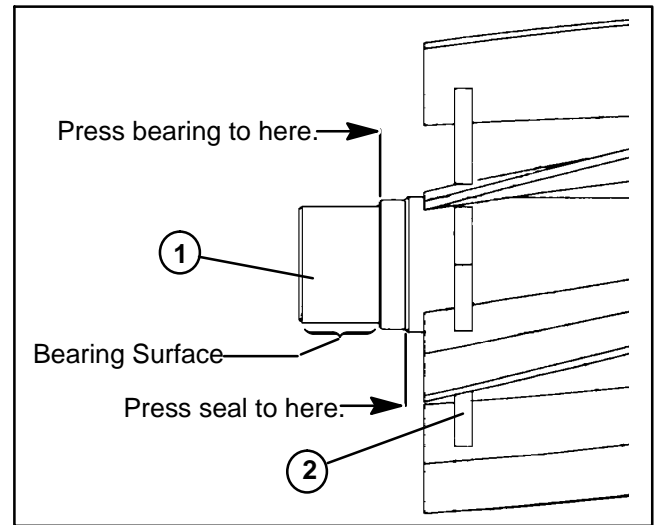

Figure 60
**Note:** If bearings (12) were removed, grease seals (13) should be replaced. Both bearings should be replaced as a set.
1. If bearings (12) and grease seals (13) were removed from the reel shaft (1), install seals and bearings to the shaft as follows:
- B. Clean bearing surfaces of reel shaft. Apply anti-seize lubricant to both bearing surfaces (Fig. 60).
**IMPORTANT: Pressing the seal too far onto the reel shaft will cause the seal to spread, and not allow it to be tight on the shaft (Fig. 60).**
- C. With the lip side of the seal facing the reel spider, press seal onto each end of the reel shaft (Fig. 60).
- D. Press bearing onto each end of the reel shaft (Fig. 60).
**IMPORTANT: Do not install the flat wire spring (11) into the right bearing housing. Damage to the spring may result as well as increased noise and poor quality of cut.**
2. Install right bearing housing (10) as follows:
- A. Insert bearing housing (10) into the right sideplate of the frame so that the grease fitting (9) is facing up.
- B. Apply Loctite 242 or equivalent to the threads of the two tapered screws (14).
- C. Insert both tapered screws (14) through the side plate and bearing housing (10). Start tapered nuts (8) onto screws.
- D. Place bearing spacer (29) into the bearing housing (10).
3. Position reel (1) into the cutting unit frame. Slide end of reel into bearing housing (10) while keeping the bearing (12) straight.